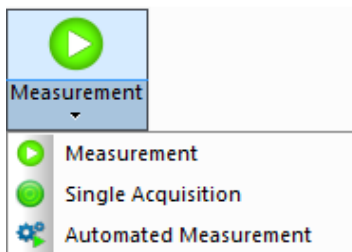

Figure 4-6: Measurement Buttons
- 12 Click the **Measurement** button on the Ribbon (see Figure 4-6) and then select **Measurement**. The events that now occur are described in What Happens During a Scan Measurement on page 4-6.
- 14 At the end of the measurement, the Data Analysis window appears (see Figure 4-6). If desired, click **Save > Dataset**.